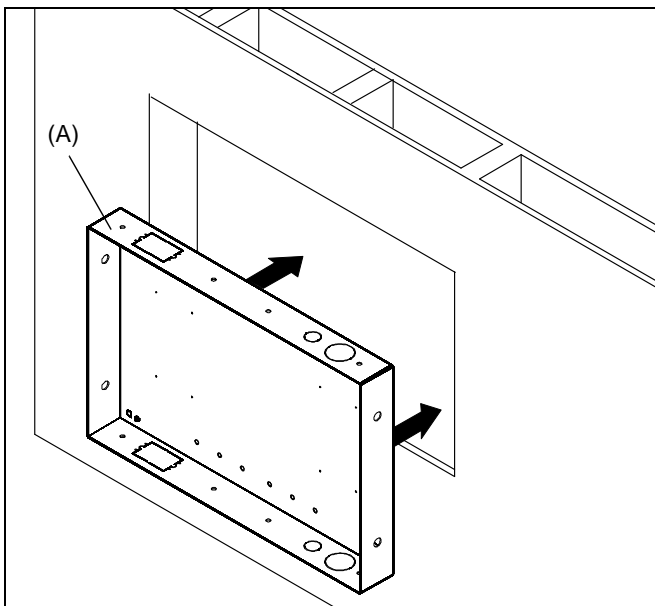

Figure 3
1. Install PAC-GB1 electrical box accessory into the PAC-501 (A) following instructions included with the PAC-GB1.
4. Center PAC-501 (A) in opening and insert into opening. Align front of box with front face of wall. (See Figure 3)